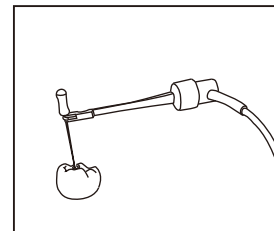

Fig.11
- 6) Connect the file holder to the file. (Fig.11)